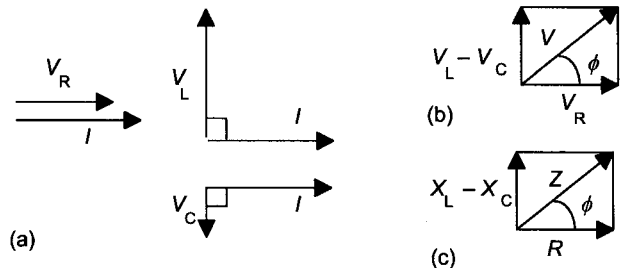

Figure 17.23 $V_L > V_C$
- 1 For $V_L > V_C$, i.e. $X_L > X_C$ (Figure 17.23)
Because the voltage phasors for the inductor and capacitor are in opposite directions (Figure 17.23(a)) we can subtract them to give a phasor for the voltage drop across the inductor and capacitor of size $V_L - V_C$. We can then use the parallelogram relationship of phasors to obtain the resultant voltage (Figure 17.23(b)).
10.6 Ω . Since the inductive reactance is greater than the capacitive reactance the situation is like that shown in Figure 17.23. The circuit impedance Z is: